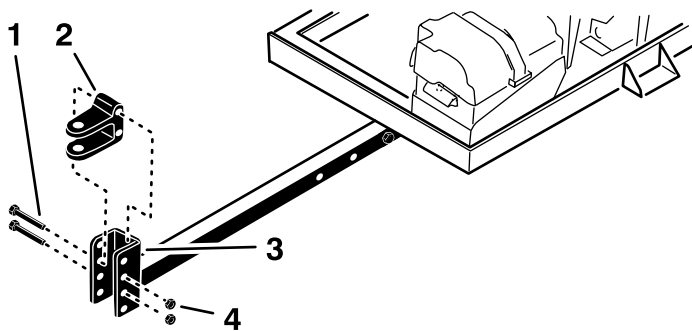

Figure 5
3. Remove the 2 bolts and 2 locknuts securing the hitch clevis (Figure 5) to the hitch tube.
5. Assemble the hitch clevis to the hitch tube with the 2 bolts and 2 locknuts (Figure 5).